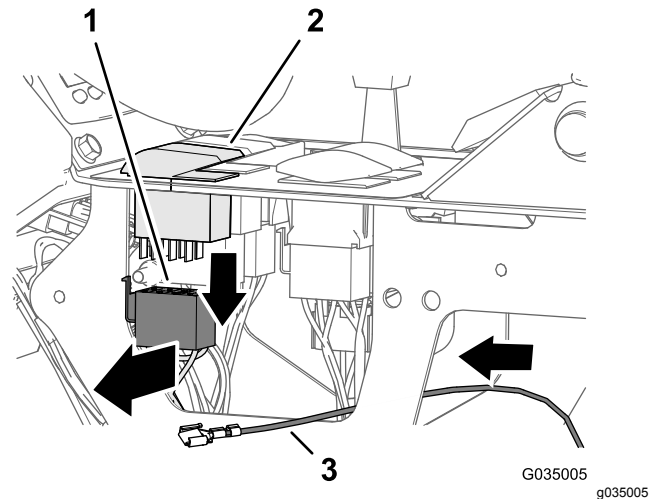

Figure 115
1. Press in the latch for the 8-socket connector at the sprayer-pump switch, and separate the connector from the switch (Figure 115).